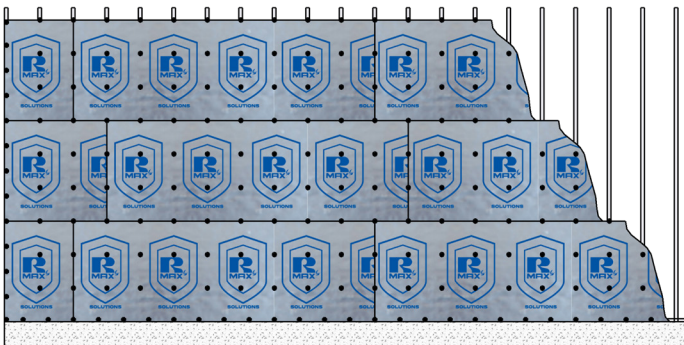
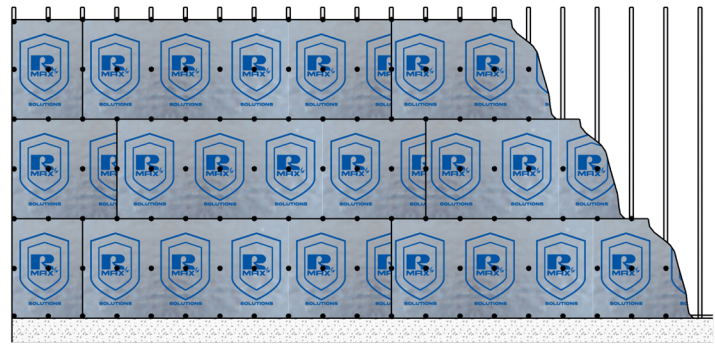

Figure 2
Figure 3
B. Fastening Pattern: Secure insulation boards at each stud with fastening pattern show in **Table 1** based on insulation board thickness. The maximum fastening pattern for insulation less than 1.5" is 12" on center at the perimeter of the wall and rough openings and 16" on center throughout the wall field. **Reference Figure 2.** The maximum fastening pattern for insulation 1.5" and greater is 24" on center vertically at every stud. **Reference Figure 3.**